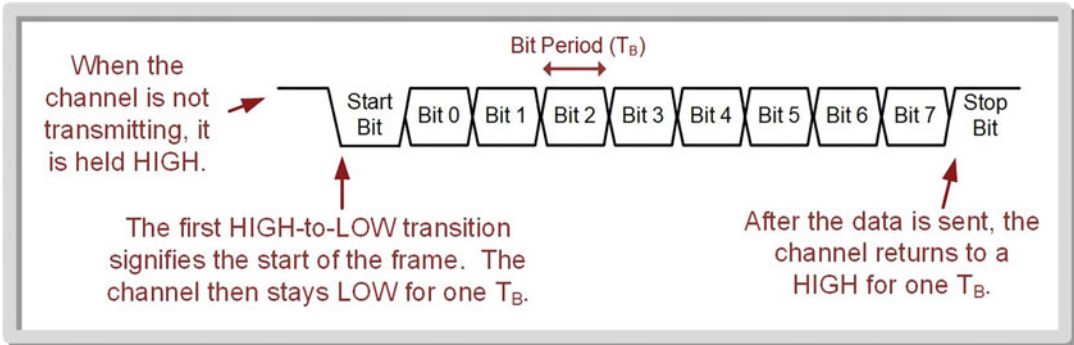
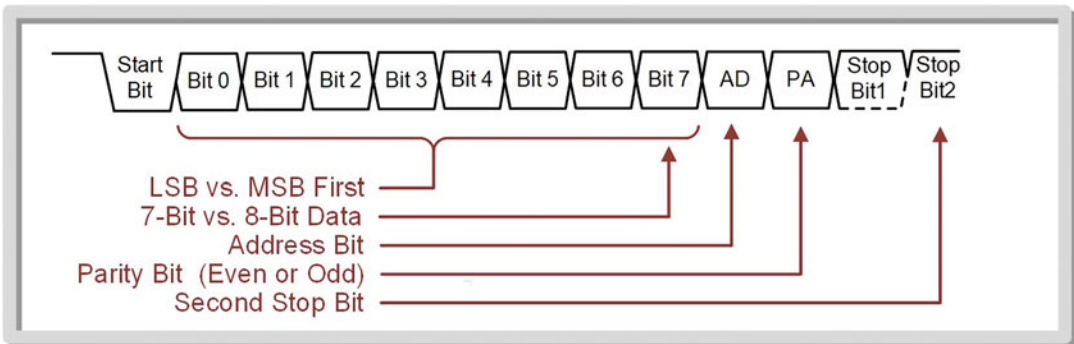

Fig. 14.3
Fig. 14.4
Framing is the term used to describe how the bits are arranged in the UART serial bit sequence. When a UART link is not transmitting, it is held at a logic HIGH. This idle logic level stems from early systems in which they wanted a way to make sure that the transmitting link was still operational. Having the Tx drive a HIGH while not transmitting tells the Rx that it is still powered on. To start a data transmission, the Tx drives the line LOW and holds it there for one T_B . This initial symbol is called the *start bit*. After that, the data word is transmitted bit by bit, typically starting with the LSB. After the bits have been transmitted, the Tx drives the line HIGH for one T_B to represent the end of the sequence. This last symbol is called the *stop bit*. Figure 14.3 shows the framing for a typical 8-bit UART transmission.
There are many different framing variations beyond what is shown in Fig. 14.3. The most common options that are configurable on the MSP430 are swapping the order in which the bits are sent (i.e., sending MSB first, LSB last), changing the data size between 7 bits and 8 bits, adding an address bit (AD), adding a *parity bit* (PA), and adding a second stop bit. These framing options are shown in Fig. 14.4.